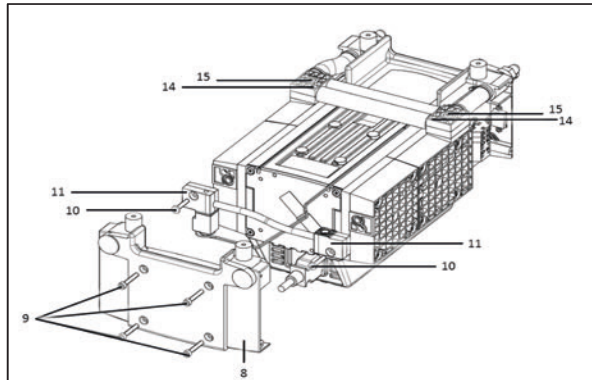

Fig. 5: Disassembling the head connections
2. Undo the connection cover's (8) attachment screws (Fig. 5/9) and remove the connection cover.
3. Remove the head connection's (11) and (14) screws (10) and (15) and remove the head connections.
To do this, manually tighten the head connections' attachment screws (Fig. 5/10 and 15).